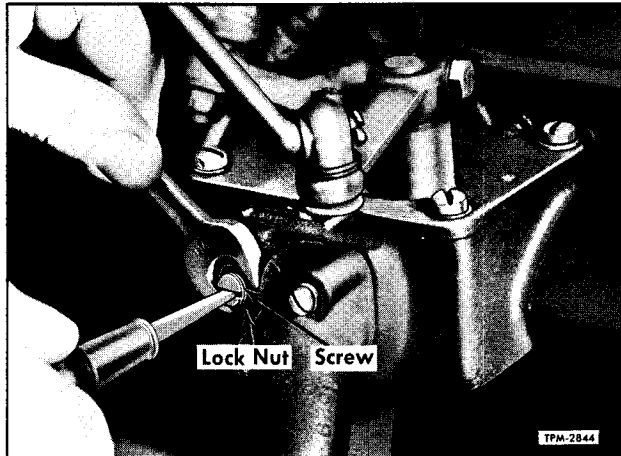

Figure 60—Buffer Spring Screw Adjustment
2. Loosen locknut and back out buffer screw (fig. 60) until it projects about $\frac{5}{8}$ " from the governor housing.
To adjust after the screw has been backed out as directed for the low speed adjustment, turn screw IN until engine idling speed, is increased slightly (not over 20 rpm), thus insuring spring contact with the differential lever (fig. 60).